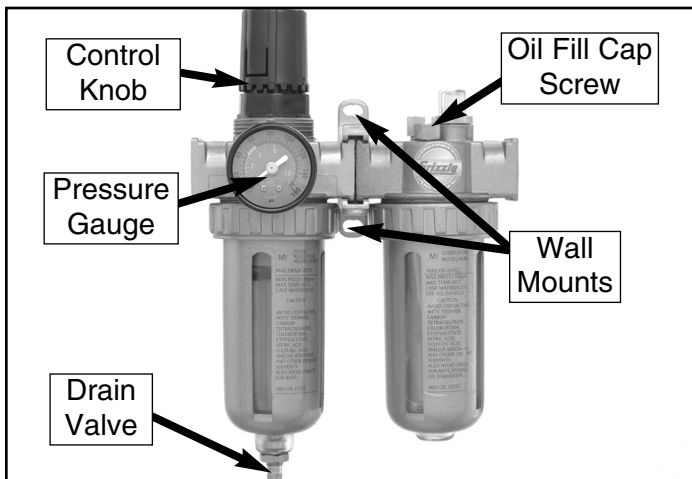

Figure 1. Identification and mounting orientation.
3. Mount the Model H3258 (in the upright position shown in **Figure 1**) on a wall close to the area of air tool operation, using the wall mount guide holes. You can also connect it directly onto the compressor shut off valve. Note—Place the Model H3258 away from direct sun or hazardous materials.
2. Never let the water collect past the maximum drainage line. Drain out the water by opening the drain valve located at the bottom of the filter housing (**Figure 1**).